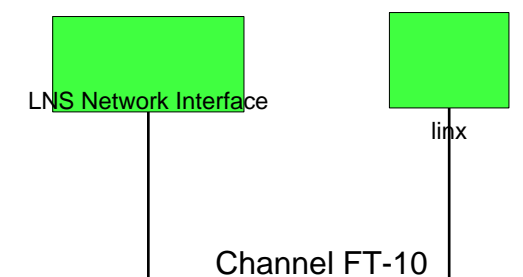

Figure 77: The L-INX has been added to the drawing.
10. Finally, you should get the device added to your drawing as depicted in Figure 77.